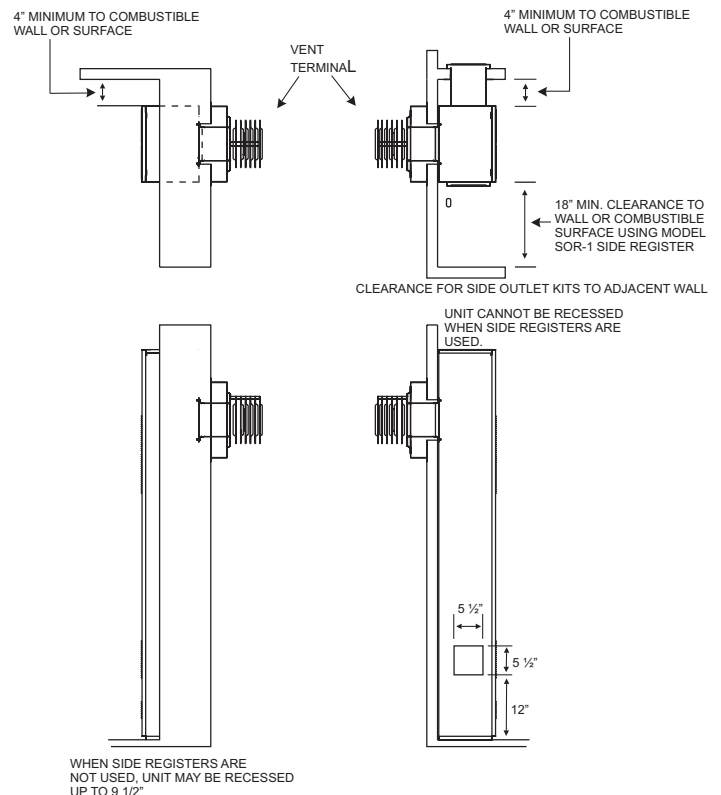

Figure 6
Side outlet register, SOR-1 may be installed on one or both sides of the furnace at the required clearances of 18" (457mm) to adjacent wall or combustible material as shown in Figure 6.
3. Remove the (2) #8 X 3/8" (9mm) screws that attach the inner shield cover plate to the inner shield.
6. Insert the 5" x 5" (127mm x 127mm) inner boot through the outer casing. Align the clearance holes on the inner boot with the crew holes on the inner shield. Attach inner boot to inner shield with (2) #8 x 3/8" (9mm) screws removed in Step 3.
8. Drill (2) 1/8" diameter holes in cabinet side and attach the register with (2) #10 x 1" (25mm) provided screws.
**Side outlet kit, SOK-1**, 10" (254mm) boot assembly with register, for warm air discharge into an adjoining room may be installed on either side of the furnace at the required clearance of 4" (102mm) to adjacent wall as shown in Figure 6.